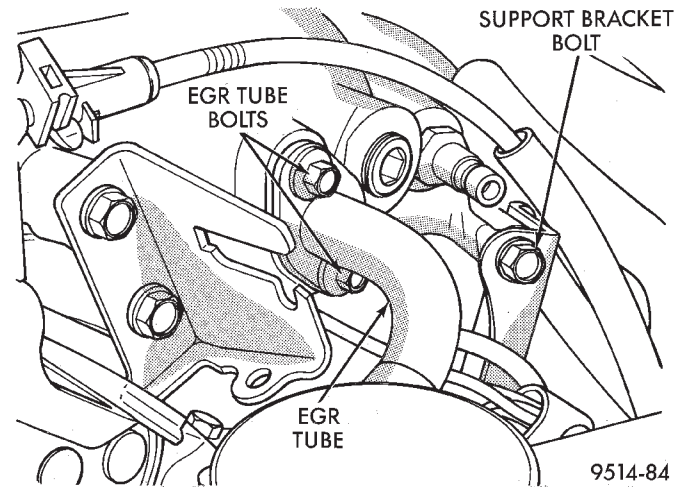
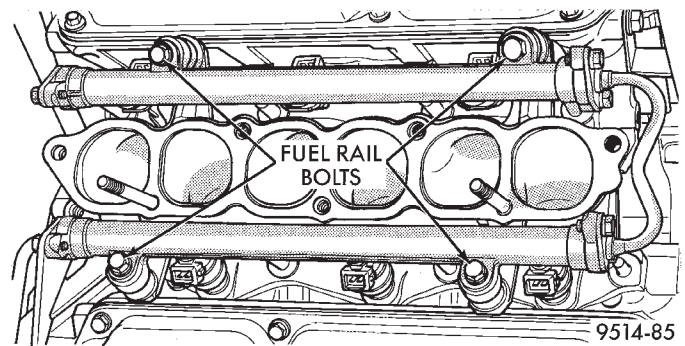

Fig. 33 Tube and Right Plenum Support Bolt
Fig. 34 Fuel Rail Attachment
(13) Remove EGR tube from intake plenum (Fig. 33).
(14) Remove plenum support bracket bolt located rearward of EGR tube (Fig. 33).
(15) Remove 7 bolts holding upper intake plenum and remove plenum.
(16) Disconnect electrical connectors from fuel injectors.
(17) Remove 4 bolts holding fuel rail (Fig. 34).